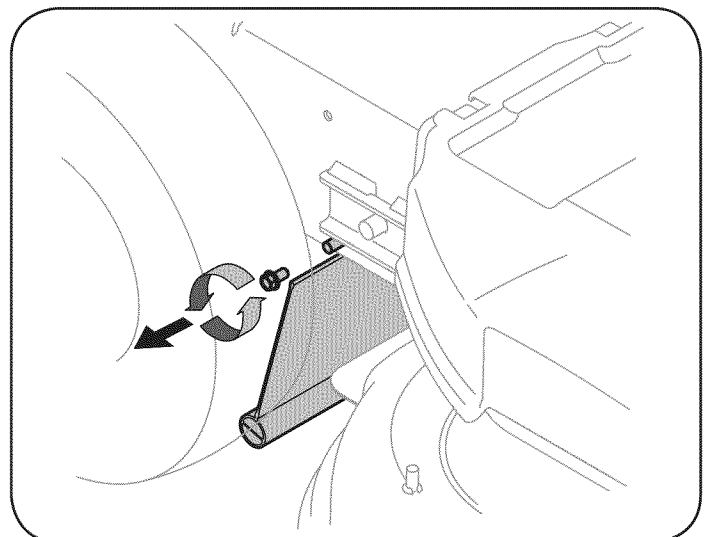

Figure 32
- Remove the screw which secures the trail shield to the right side of the mower. See Figure 32.